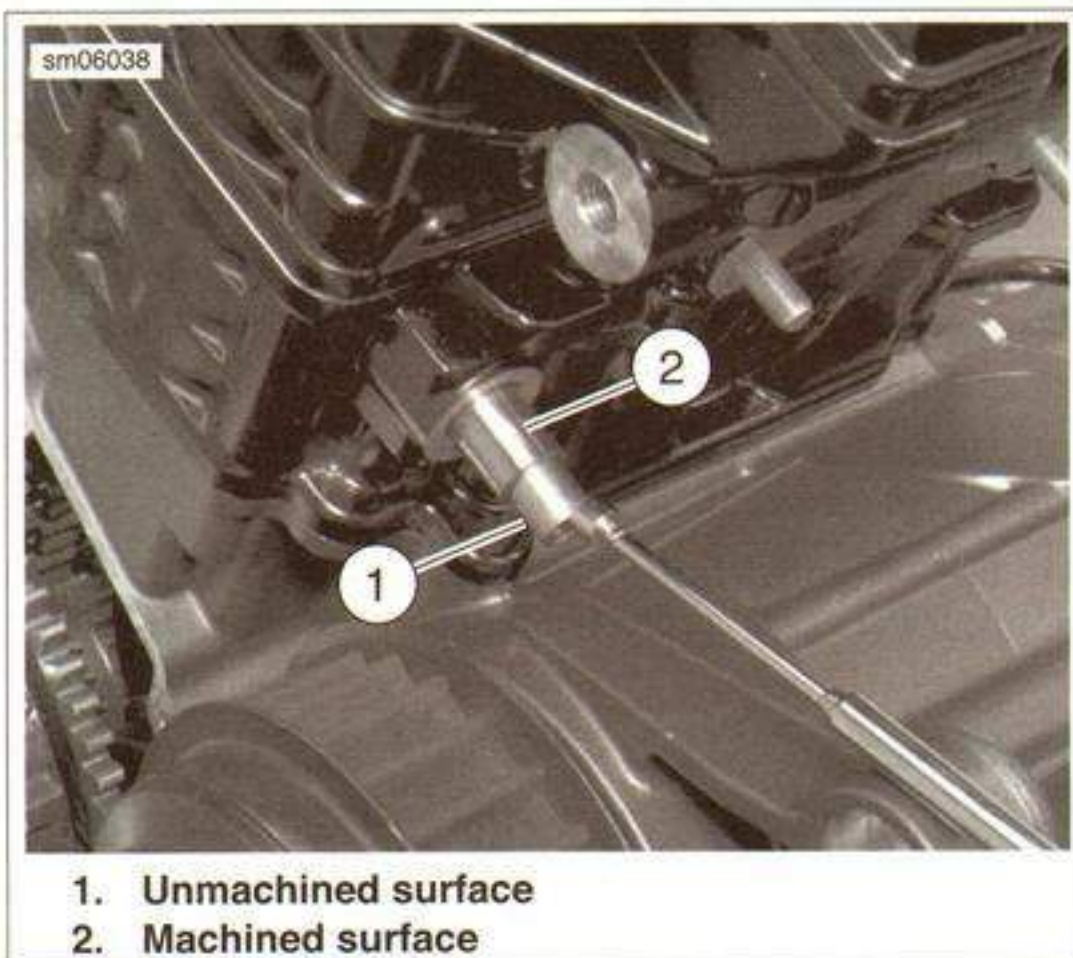

Figure 3-68. Camshaft Chain Tensioner
7. See Figure 3-68. Remove camshaft chain tensioner using magnet on unmachined surface (1) of tensioner.